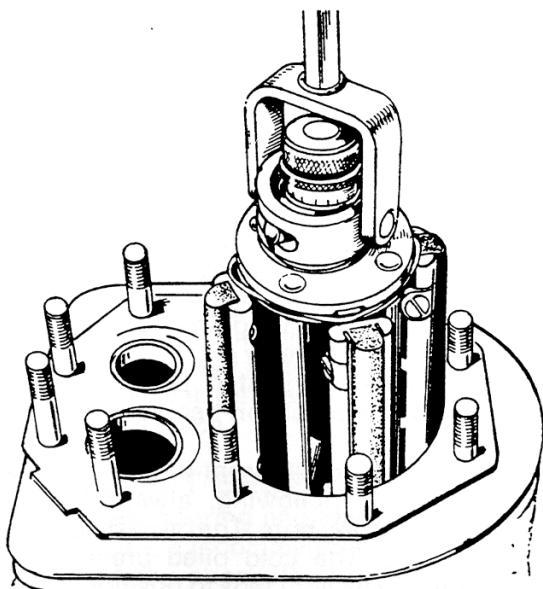

FIGURE 55. HONING CYLINDER
1. A hone can be used to rebores a cylinder, Figure 55. Remove stock to 0.002 inch (0.051 mm) less than finished bore with coarse hone (100 grit), then complete honing with finish hones (300 grit).